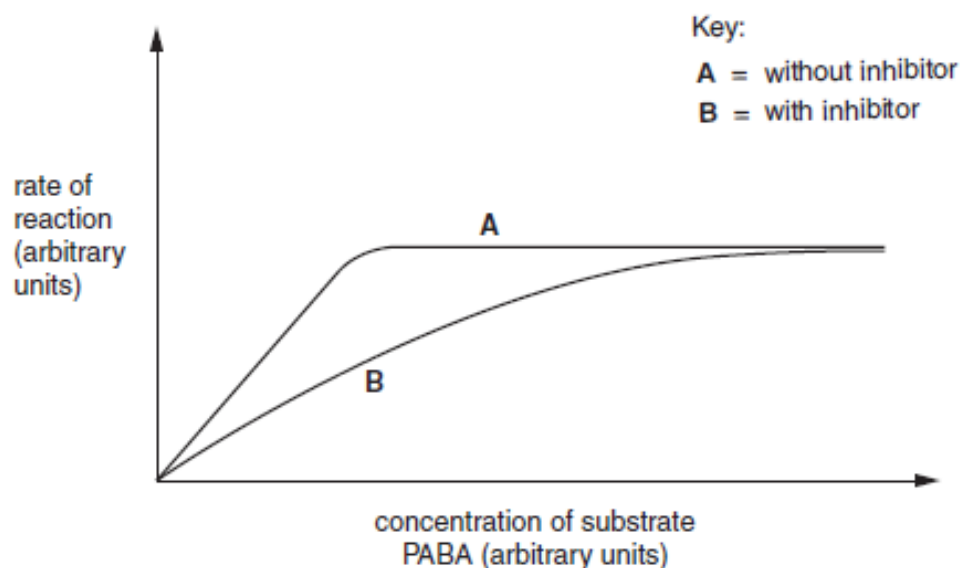

Fig. 3.2
- (b) Fig. 3.2 shows the effect of increasing the concentration of the substrate (PABA) on the rate of reaction.